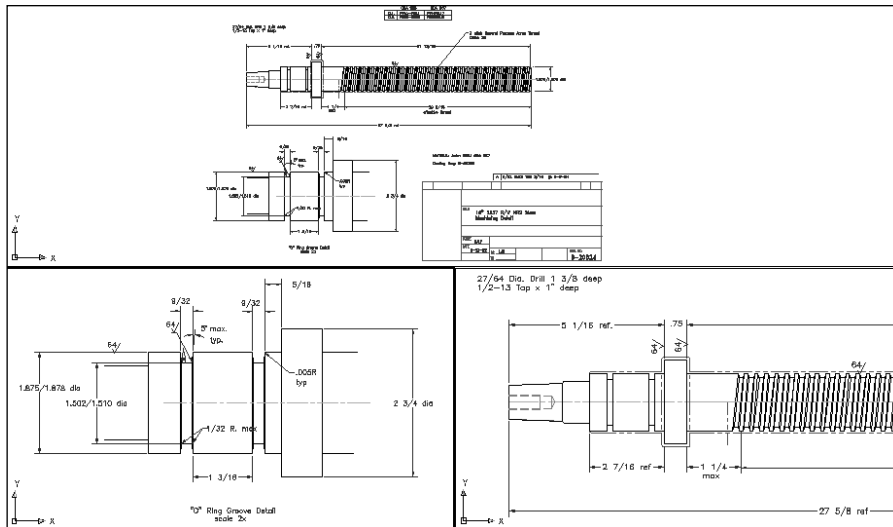

Figure 8-14: The three tiled viewports now display three different views.
7. Click the top viewport. Choose Zoom Extents from the Zoom flyout of the Standard toolbar. Figure 8-14 shows the results.